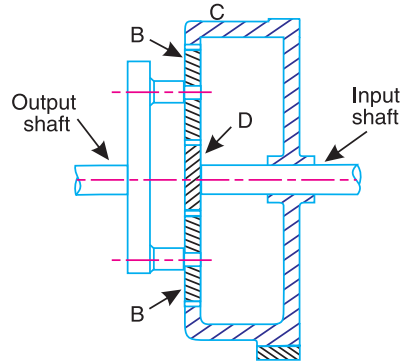

Fig. 13.47
18. In the epicyclic reduction gear, as shown in Fig. 13.47, the sunwheel  $D$  has 20 teeth and is keyed to the input shaft. Two planet wheels  $B$ , each having 50 teeth, gear with wheel  $D$  and are carried by an arm  $A$  fixed to the output shaft. The wheels  $B$  also mesh with an internal gear  $C$  which is fixed. The input shaft rotates at 2100 r.p.m. Determine the speed of the output shaft and the torque required to fix  $C$  when the gears are transmitting 30 kW.